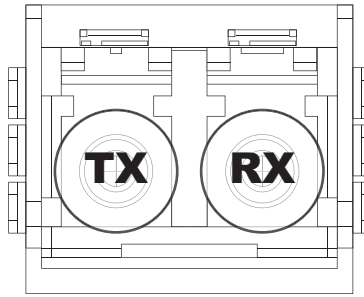

Figure 19.3 SFP-MADI-850MM, Front View — Channel Position
**Figure 19.3** outlines the physical channel position of the SFP-MADI-850MM.